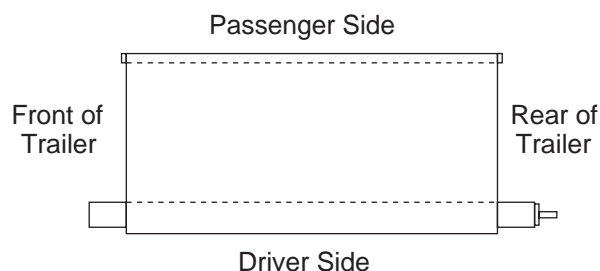

Figure 14
- 1) **See Figure 14.** Place the tarp assembly (1) on top of the trailer tub bulkheads. The long adapter shaft is positioned toward the swing-arm end of the trailer.